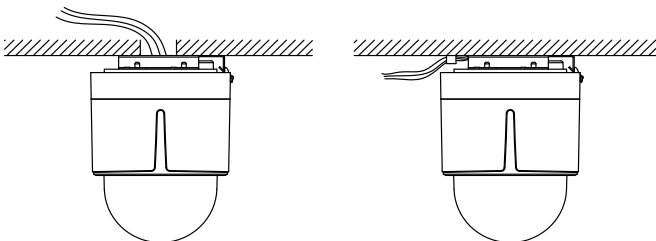

Figure 2-18 Cabling for Ceiling Mounting
2. Route the cables. The cables of speed dome can be routed either from the top or the side of the back box, as shown in Figure 2-18. For the cables routed from the top of the back box, it is required to drill a cable hole in the ceiling.